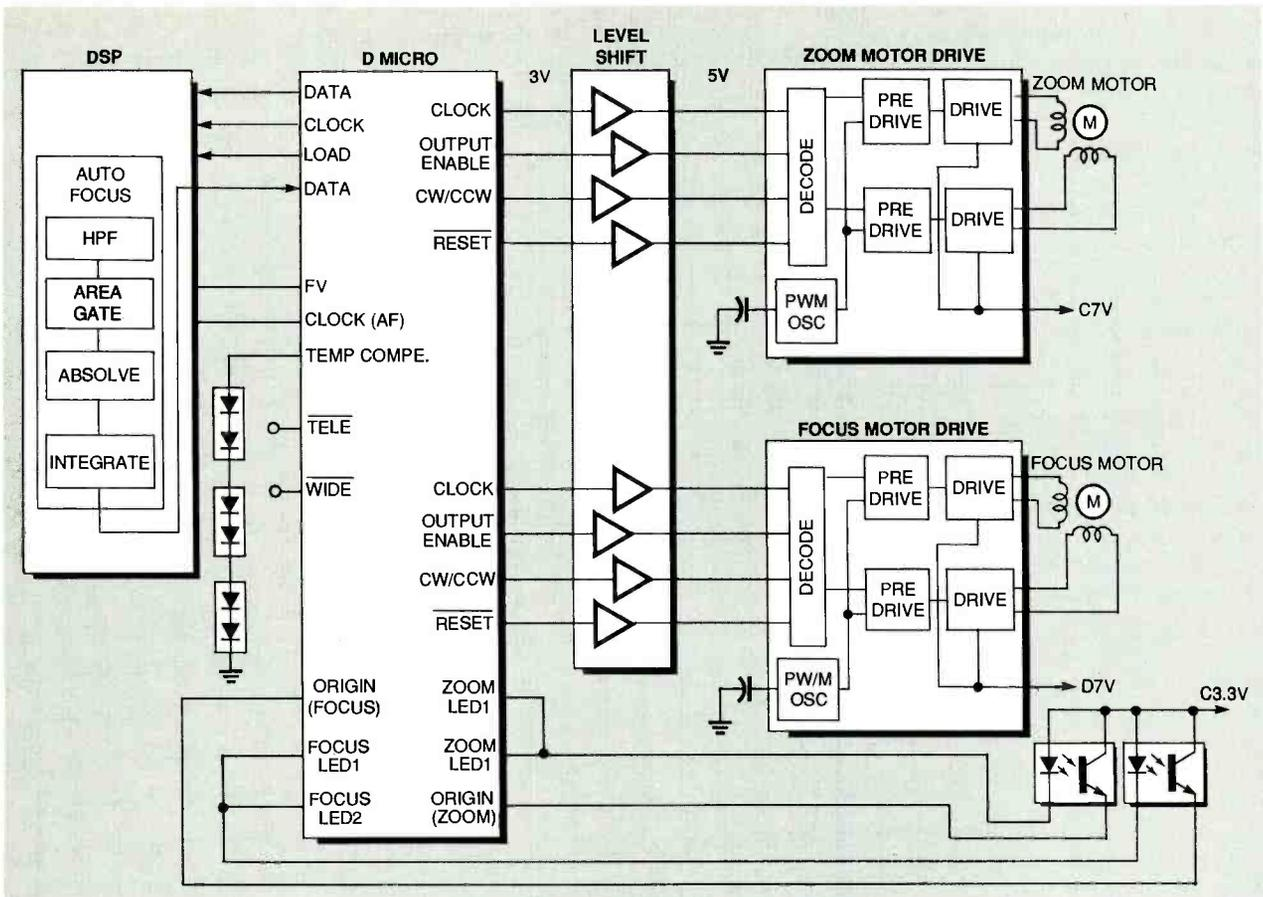

FIG. 4—A BLOCK DIAGRAM of the zoom/focus drive system. Note that zoom control circuitry is virtually identical to the focus control circuitry.
The system relies on the actual video signal processed by the camcorder for focusing. As shown in Fig. 4, the luminance portion of the video signal is sampled and fed to the auto-focus portion of the digital-signal-processing (DSP) IC as an evaluation signal. A high-pass filter converts the signal to a voltage. The frequency characteristics of the luminance signal increase in proportion to the sharpness of the focused image, and the developed voltage increases accordingly—the higher the voltage, the sharper the luminance signal and the better the focus.
You could also use the galvanometer with one of the optical-table assemblies we built in the previous months. For example, Fig. 4 shows one such modification—in this case from the December, 1996 column—with our galvanometer used in place of a speaker modulator. The reflected image that appears on the screen should be a combination of that produced by the revolving mirrors and the oscillating pattern generated by the coil. The dual revolving mirrors could also be replaced with additional galvanometers. If you incorporate beam splitters, a single laser can supply the light for various galvanic coils to produce a maze of intricate images. At the risk of sounding redundant, the only limit to a dramatic world of visual imagery is your imagination.
**FIG. 4**—HERE, THE GALVANIC-COIL ASSEMBLY has been combined with rotating mirrors and beam splitters to produce an intricate display. Note that the basic set-up was first presented in the December, 1996 issue; here a speaker modulator has been replaced with the galvanic assembly